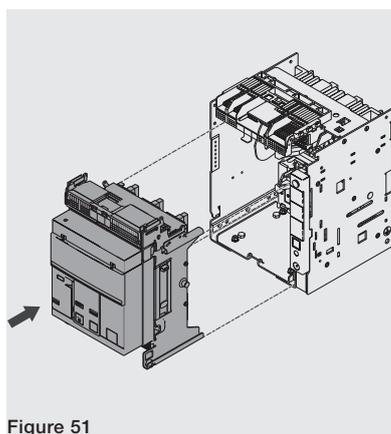
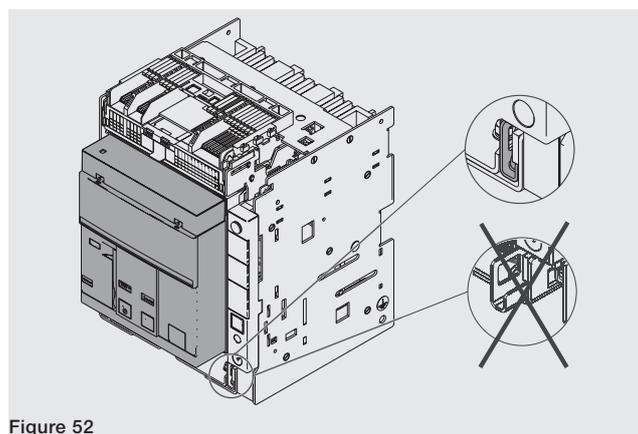

Figure 51
Figure 52
3. Position the moving part in the fixed part and push until it comes to a stop. See Figure 51 and Figure 52.